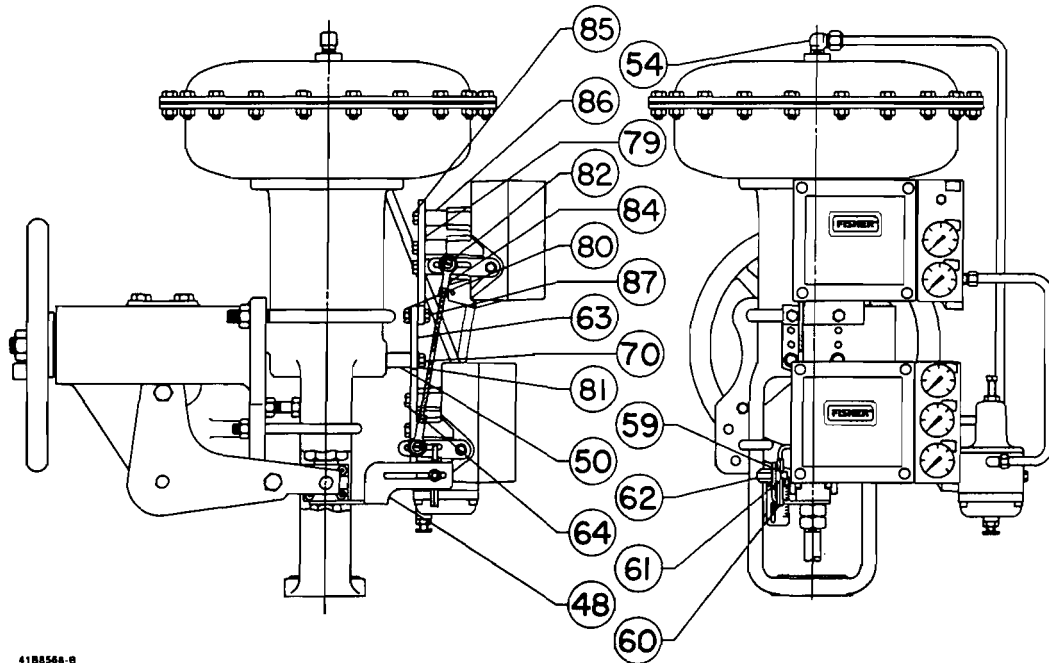

Figure 28. Typical Application of Transmitter and Positioner
**For Mounting 3582, 3582i, and 3583 on Type 657 or 667 Actuator with Side-Mounted Handwheel (figure 28)**